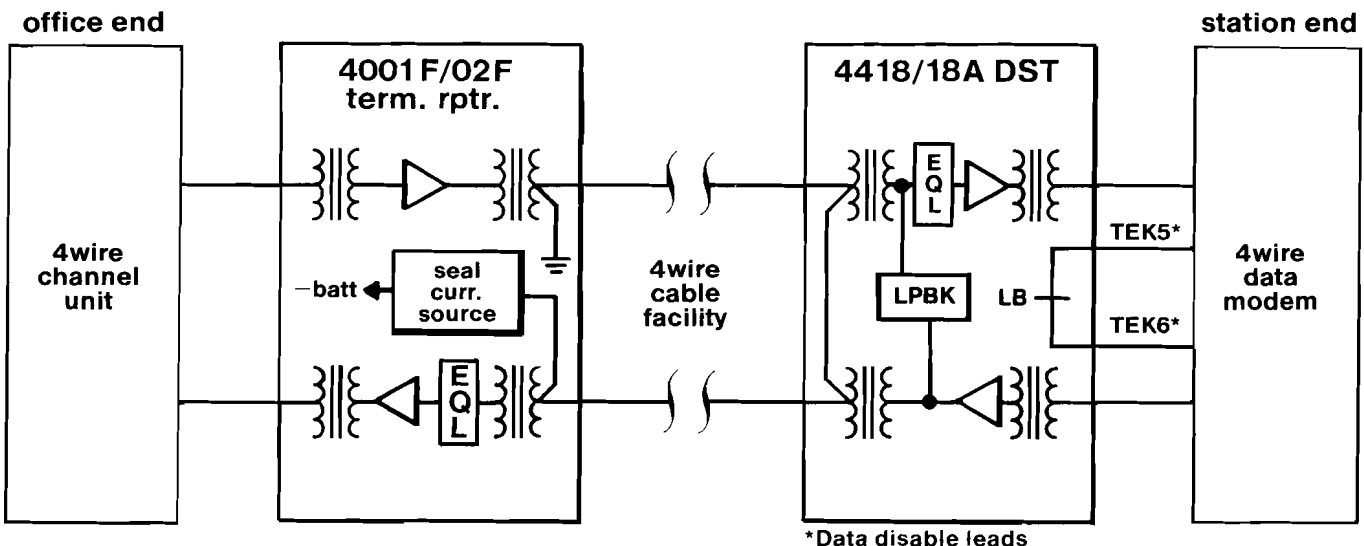
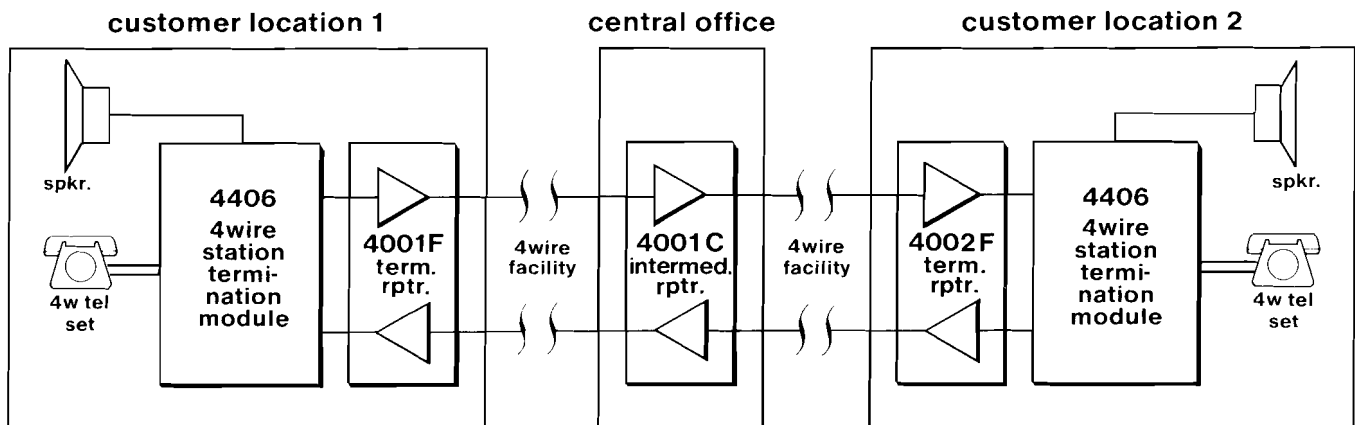

figure 3. Typical data-channel-interface application of 4001F/02F
figure 4. Typical voice-paging-network application of 4001F/02F
2.03 Additional applications of the 4001F/02F include data-channel interface applications of the type shown in figure 3 and voice-paging networks of the type shown in figure 4. In voice-paging applications, the Tellabs 265A Mounting Assembly can be used to house both the 4001F/02F and an associated Tellabs 4406 4Wire Station Termination module if desired. See the Tellabs 265A Voice Signaling System practice for details.